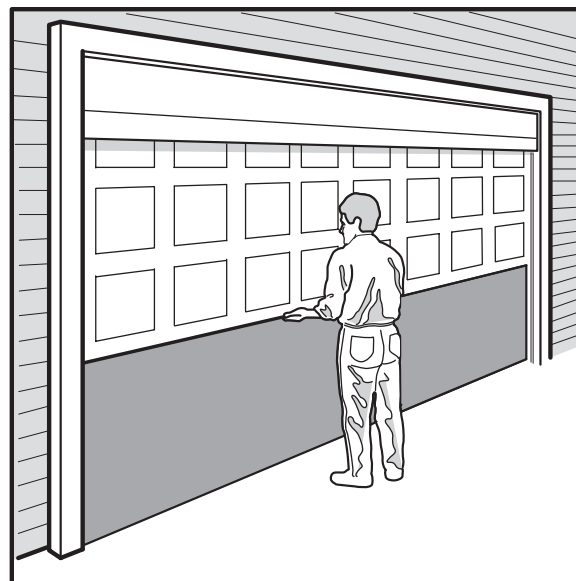

Fig: 3.9.1
- c) Lift the door to about halfway. When released, the door should stay in place. Fig 3.9.1.